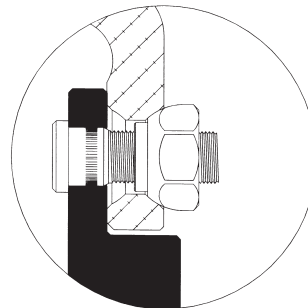

Figure 16
- For $\frac{3}{4}$ " - 16 studs, special cap nuts with a collar must be used. (See Figure 16.)